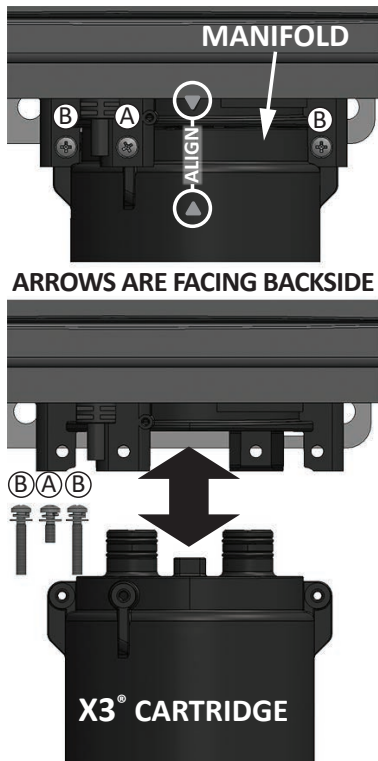
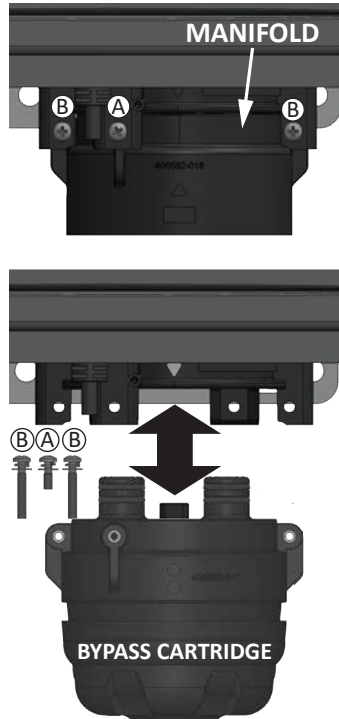

Figure 8 - X3® Cartridge
Figure 9 - Bypass Cartridge
- 4 Locate the three screws securing the X3®/Bypass cartridge. Remove the (A) M4-12mm screw and the two (B) M4-25mm screws from cartridge. Place screws aside in a safe place for reinstallation. See Figure 8 and Figure 9.
NOTICE: The X3® cartridge is keyed to only install in one direction. Align the ▲ on the cartridge with the ▼ on the manifold (arrows will be back facing for TM series heaters). When inserting the cartridge, push up until the screw holes align. Some resistance is normal. The bypass cartridge is not keyed and will install in either direction. Figure 8 and Figure 9.